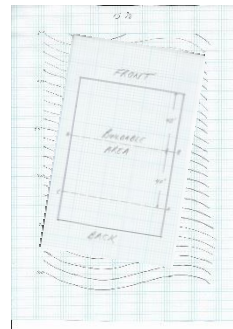

Fig 3
- 7) Skew the buildable area on the contours to the right and repeat steps 3, 4, 5 and 6 (Fig 3).